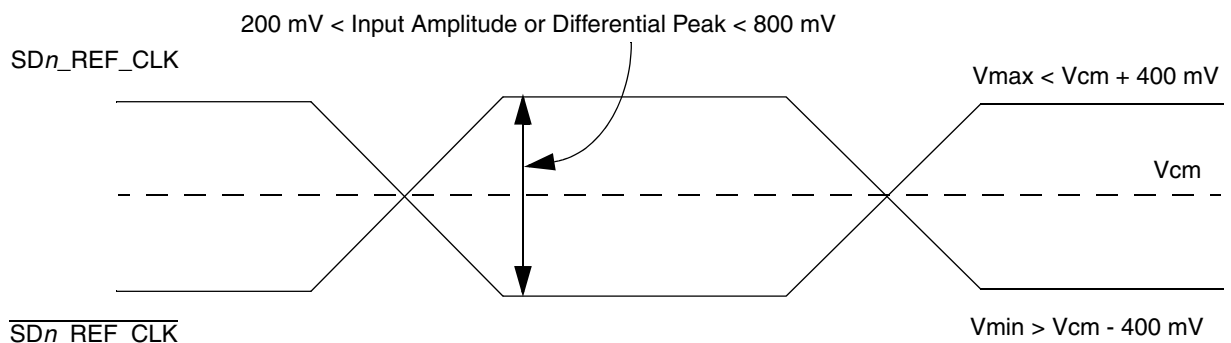

Figure 47. Differential Reference Clock Input DC Requirements (External AC-Coupled)
- For **external AC-coupled** connection, there is no common mode voltage requirement for the clock driver. Since the external AC-coupling capacitor blocks the DC level, the clock driver and the SerDes reference clock receiver operate in different command mode voltages. The SerDes reference clock receiver in this connection scheme has its common mode voltage set to SGND_SRDSn. Each signal wire of the differential inputs is allowed to swing below and above the command mode voltage (SGND_SRDSn). Figure 47 shows the SerDes reference clock input requirement for AC-coupled connection scheme.